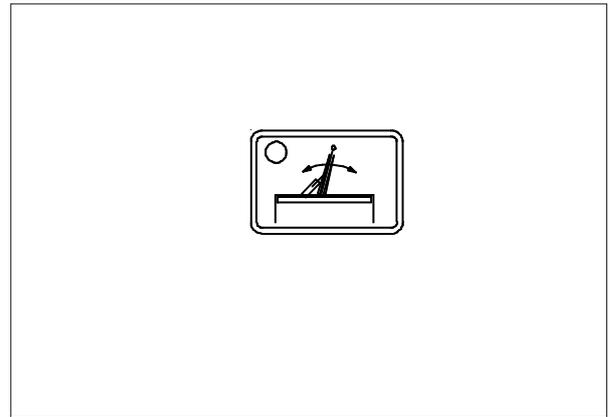

Fig. 51-2
The auto lane adjustment is activated by pushing the auto lane button (fig. 51-2) (pos. 8 on fig. 35-1) when the lifting unit is lowered.